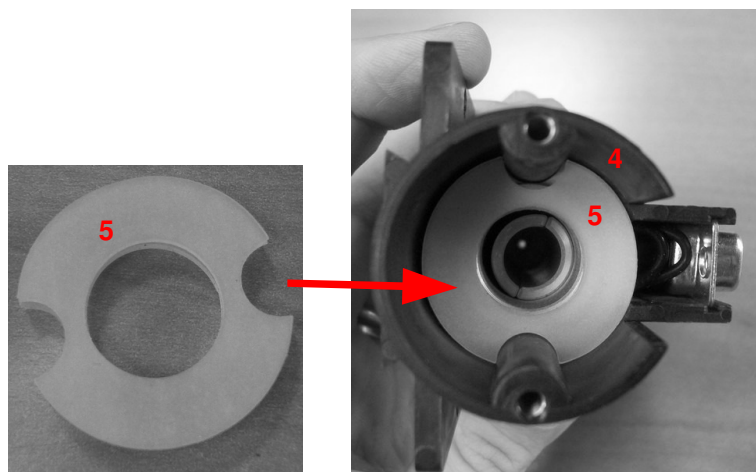

Figure 114: Insulating gasket positioning
7. Also place the insulating gasket (number 5 in **Figure 114**) inside the heating body (number 4 in **Figure 114**).
7. Place the insulating gasket (number 5 in **Figure 114**) inside the heating body (number 4 in **Figure 114**).
20. Place the insulating gasket (number 5 in **Figure 114**) inside the heating body (number 4 in **Figure 114**).